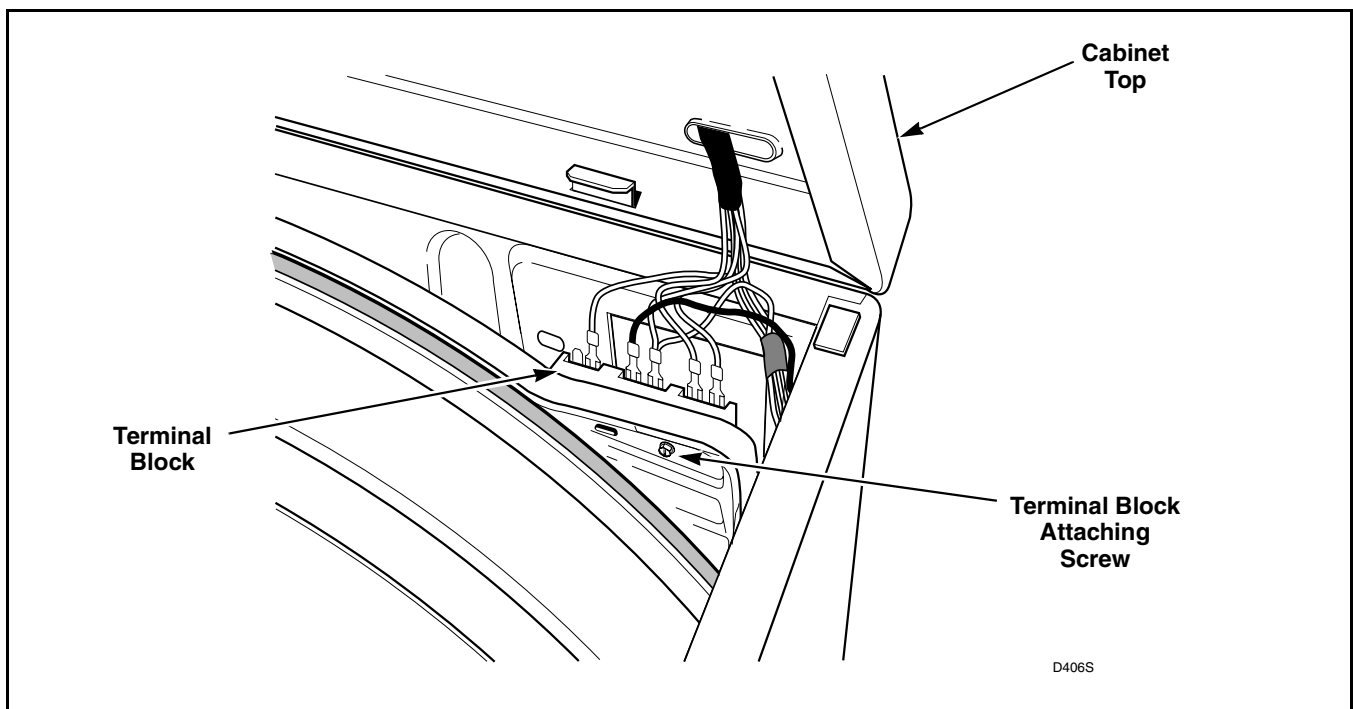

Figure 38
- (2) Remove all wires from terminal block. (Refer to appropriate wiring diagram when rewiring terminal block.)
- (3) Remove screw holding terminal block to rear bulkhead. Refer to *Figure 38*.
- (8) Remove screw holding terminal block to rear bulkhead. Refer to *Figure 38*.